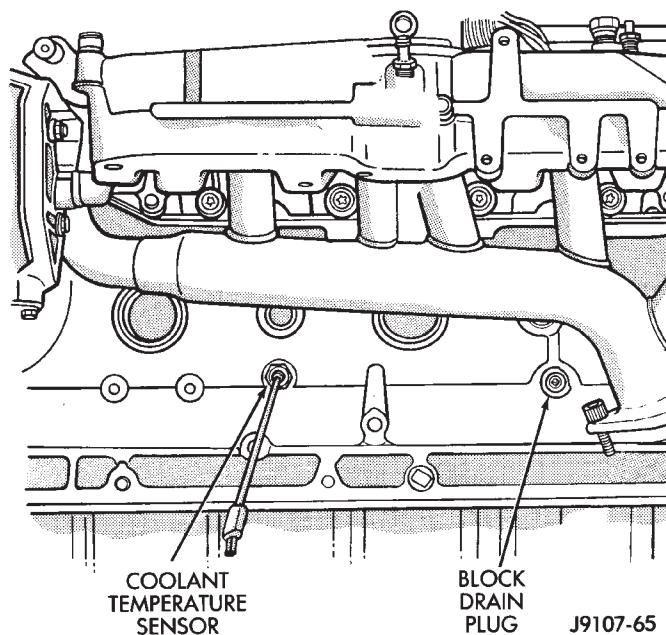

Fig. 19 Draining Coolant—4.0L 6-Cylinder Engine
- (1) Drain the coolant from the radiator by loosening the draincock.
- (2) Drain coolant from engine as follows:
- (b) On 4.0L 6-cylinder engines by removing the drain plug or coolant temperature sensor on the left side of the block (Fig. 19).
(2) For access to radiator draincock, remove radiator grille mounting screws and remove grill. Refer to Group 23, Body for procedures.
(3) Attach one end of a 24 inch long X 1/4 inch ID hose to the radiator draincock. Put the other end into a clean container. Open draincock and drain coolant from radiator.
(4) Drain coolant from engine by removing the drain plug and coolant temperature sensor on left side of block (Fig. 19).